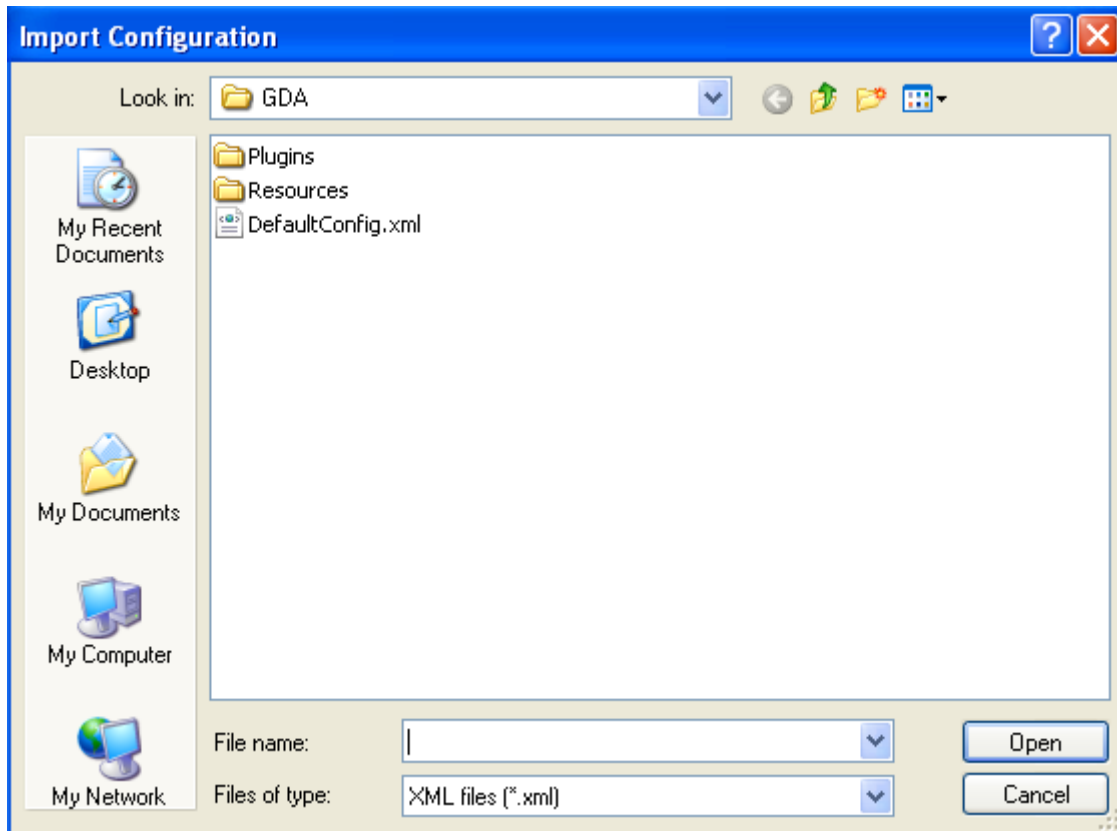

Figure 101 - Import Configuration Window
4. The **Import Configuration** window (Figure 101) appears.